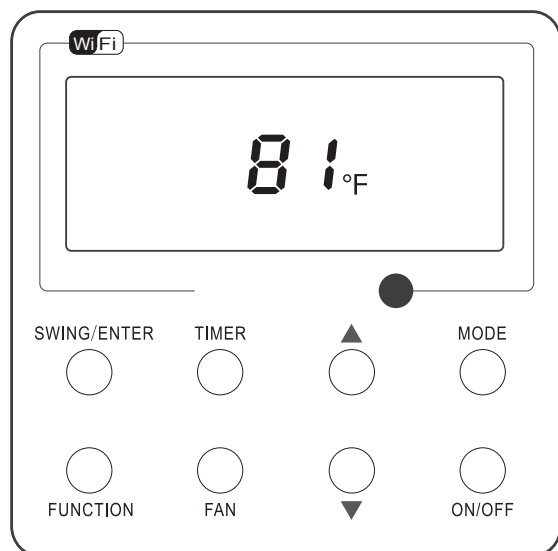

Fig. 4 "OFF" State
**NOTE:** The state shown in Fig.4 indicates the "OFF" state of the unit after power on. The state shown in Fig.5 indicates the "ON" state of the unit after power on.